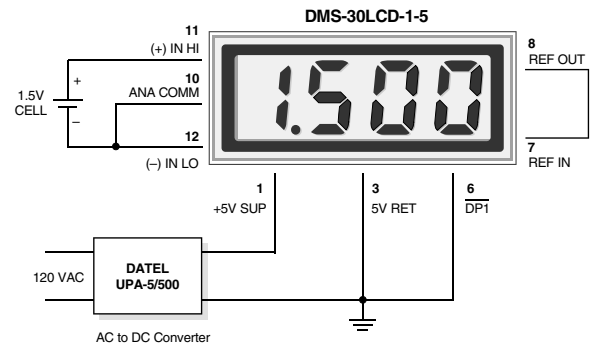
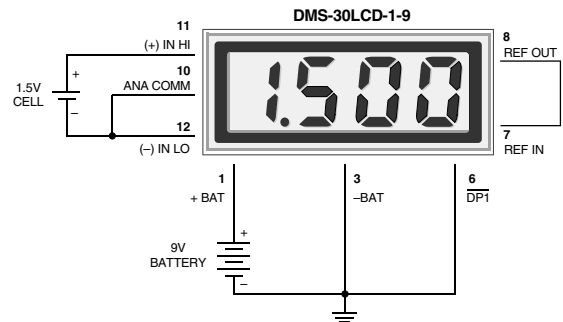

Figure 5. Floating Input Measurements (5V-Powered Models)
Figure 6. Floating Input Measurements (9V-Powered Models)
- 4. Floating Signal Source Measurements:** Floating signals can be measured using the circuits shown in Figures 5 and 6. Figure 5 uses a 5V-powered meter. Figure 6 uses a 9V-powered meter. Connecting pin 10 (ANALOG COMMON) to (-) INPUT LO (pin 12) provides the reference point for the meter's input.